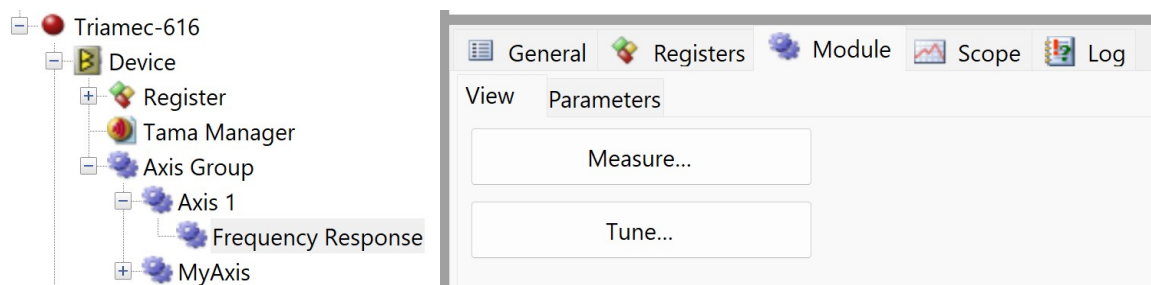
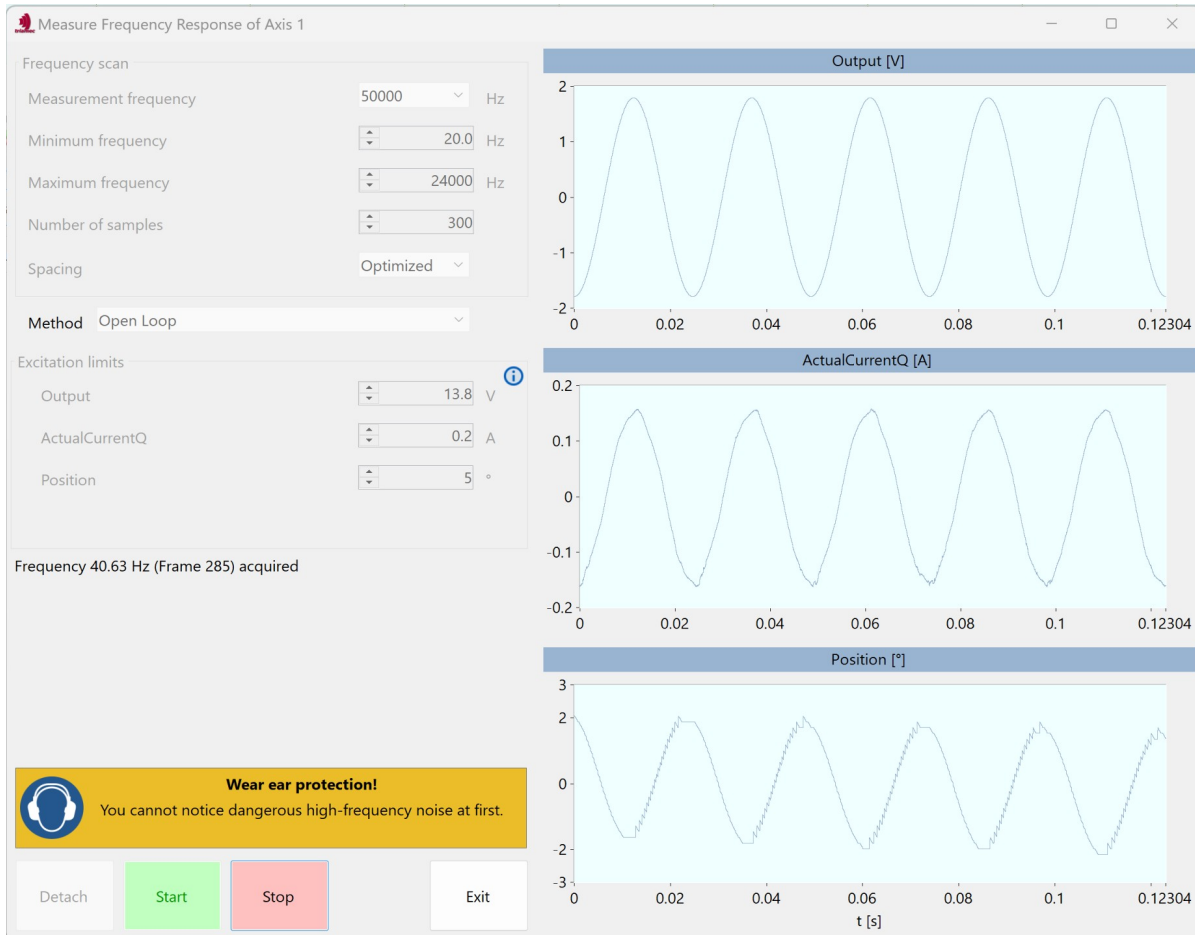

Figure 32: Frequency Response module.
Figure 33: Frequency Response measurement application.
To start the measurement click the **Measure...** button (Figure 32). This opens the window with the application as shown in Figure 33.
- To open measurements in the editor click **Tune Controllers...** (Figure 32).